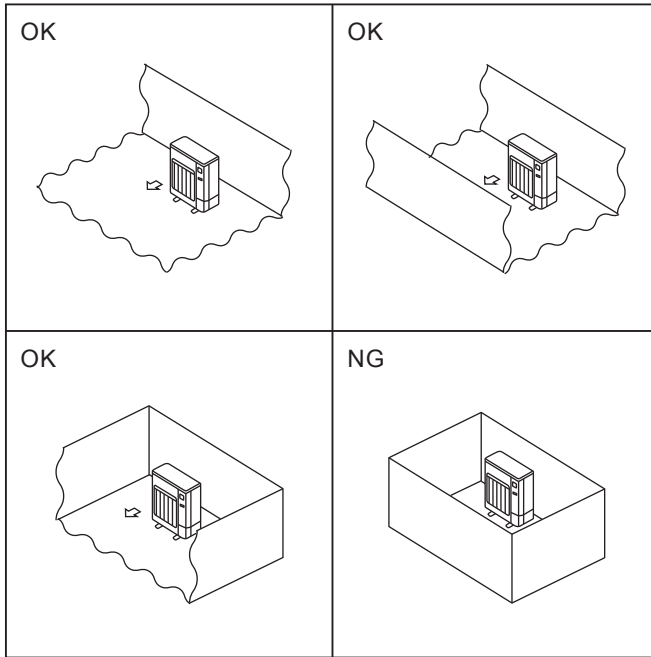

Fig. 1-1
- Ⓢ Install outdoor units in a place where at least one of the four sides is open, and in a sufficiently large space without depressions. (Fig. 1-1)